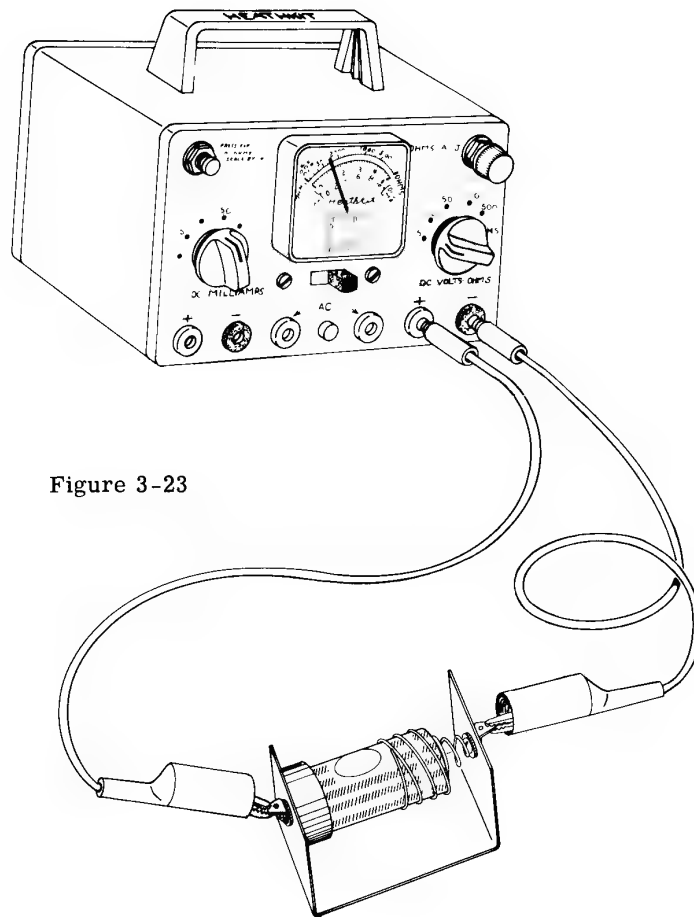

Figure 3-23
- ✓) After making sure that the pointer knob is set at 5 volts, insert the red and black test leads in their appropriate banana jacks. Connect the alligator clips to the test circuit, Figure 3-23, reading the cell voltage of 1.5 volts on the 5 volt scale.